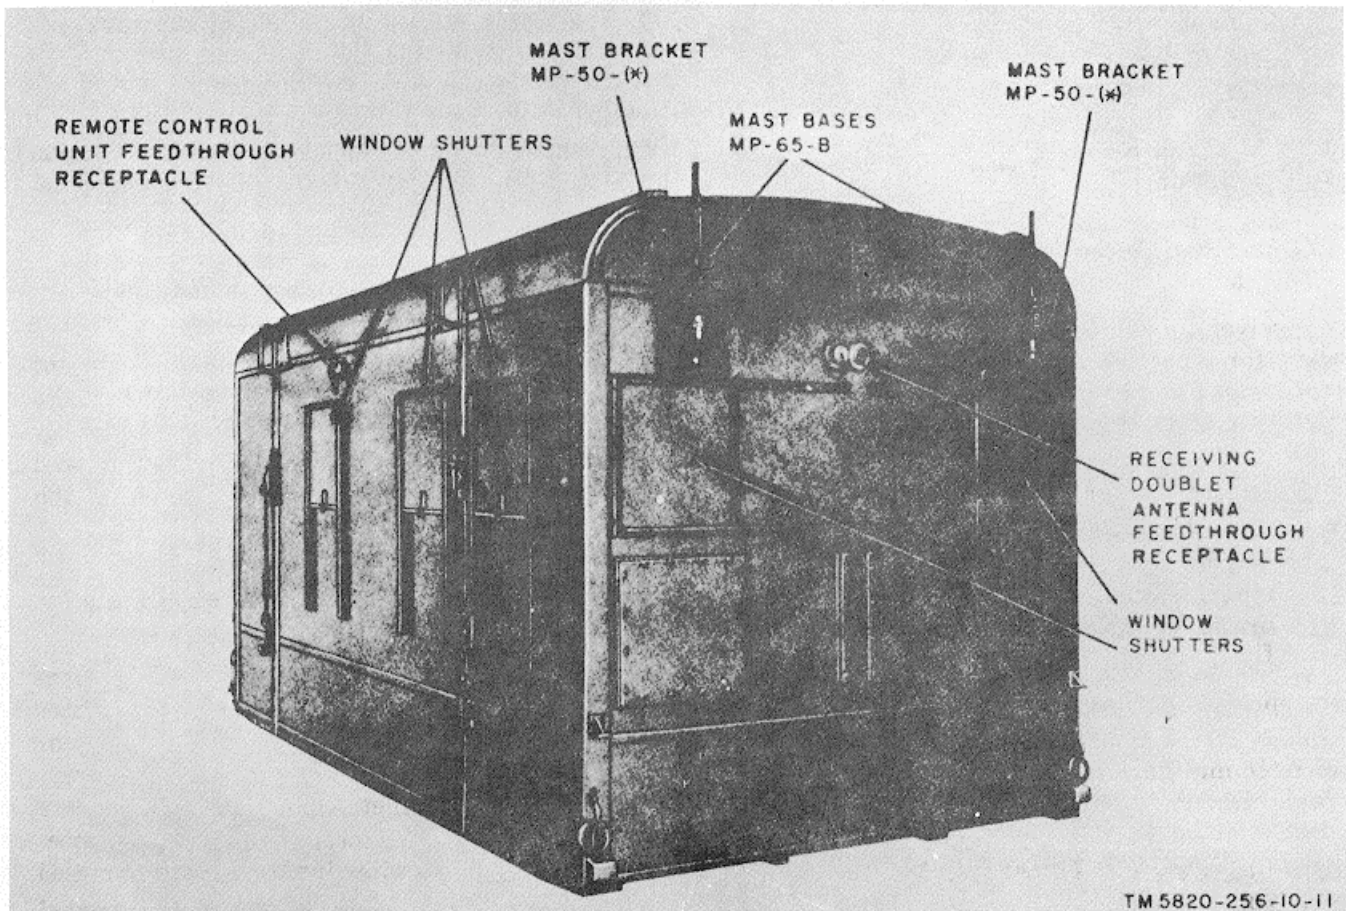

Figure 1-2. Shelter, Electrical Equipment S-56(*)/G, front oblique view.
a. The shelter (fig. 1-2 and 1-3) is an insulated steel and plywood structure that houses the components of the radio set. Six wall windows and the window in the rear door have screens and shutters. A roof hatch is provided in Shelter, Electrical Equipment S-56A/G only. The windows and hatch may be opened for ventilation. Interior wiring, electrical outlets, fluorescent lights, a window fan, and a ventilating blower are permanent parts of the 'shelter. Housekeeping and firefighting equipments are mounted in the shelter.
d. The connections between the doublet antennas and the receivers are made through the receiving doublet antenna feedthrough receptacle (fig. 1-2) on the front wall of the shelter. The connections to the remote line are made through the remote control unit feedthrough receptacle in the curbside wall of the shelter. Connections to the whip antennas are made through feedthrough receptacles in each whip mount
(1) Each receiving whip antenna consists of two Mast Sections MS-116A, one Mast Section MS-117-A, and one Mast Section MS-118-A, which are assembled and inserted in Mast Base MP-65B. Mast Base MP65-B is mounted on Mast Bracket MP-50-(*), which is secured to the front exterior wall of the shelter (fig. 1-2). The whips are tied down with insulated guy assemblies when the radio set is operated while in motion.